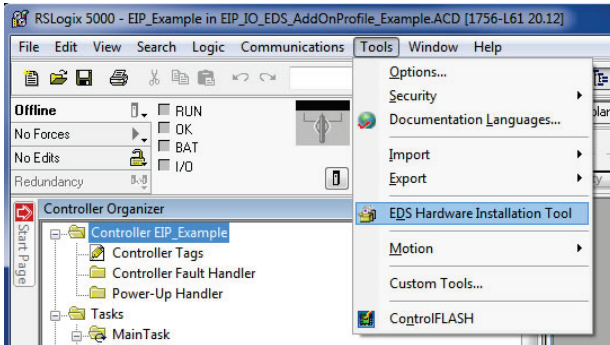

Figure 44: EDS Hardware Installation Tool Menu
- 1) Register the interface card's EDS file. In the menu bar, navigate to Tools...EDS Hardware Installation Tool. Refer to Figure 44.